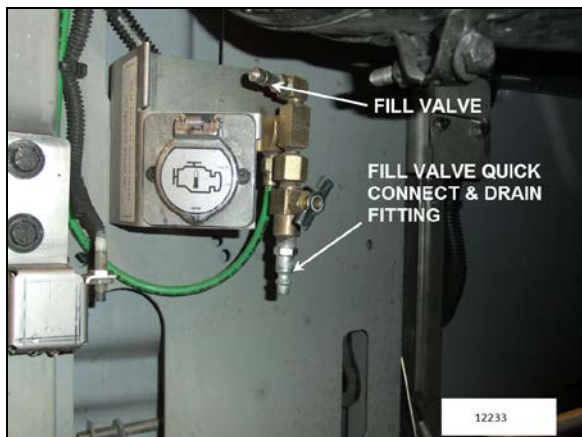

FIGURE 6: REAR VALVE LOCATION (typical)
The rear valve is located in the engine compartment and is accessible from engine compartment R.H. side door (FIGURE 6).
The air dryer and wet tank may be purged simultaneously for maintenance purposes using the drain cock on the emergency air system fill valve located in the engine compartment and accessible through the engine compartment R.H. side door (FIGURE 6).
1. Release air dryer pressure by opening the air dryer drain valve (FIGURE 6).